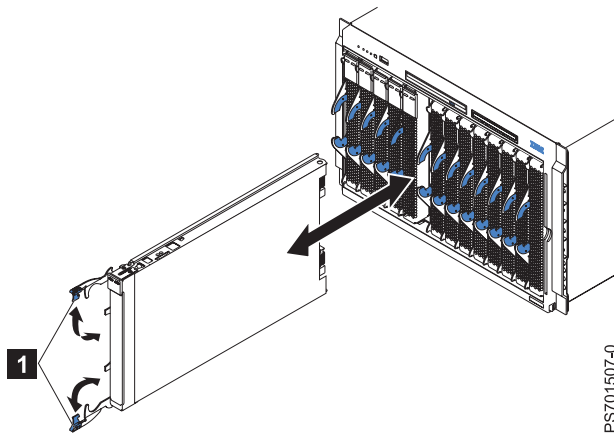

Figure 12. Installing the blade server in a BladeCenter unit
5. Verify that the release handles on the blade server are in the open position (perpendicular to the blade server, as shown in **1** in Figure 12 on page 248).